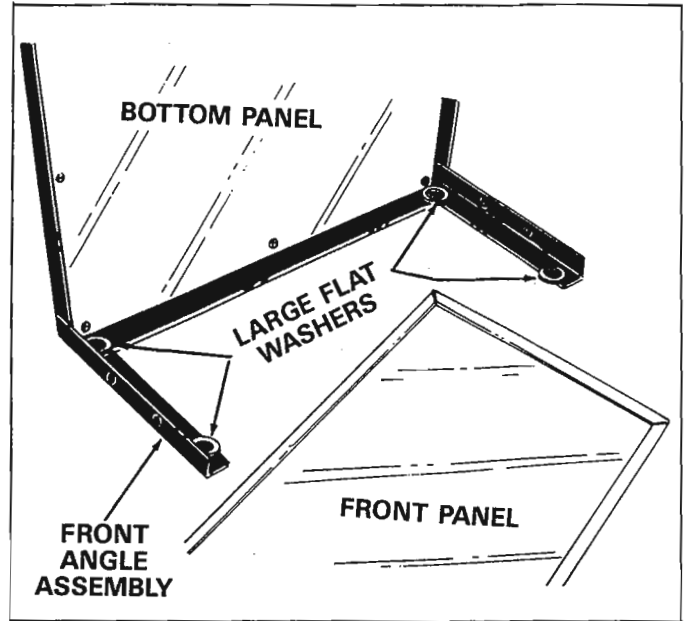

FIGURE 4
- Stand cart on its front end with front angle assembly on the floor. See figure 4.
- Place four large 1-1/2" dia. flatwashers (used on wheel axle) on the inside of front angle assembly. See figure 4.